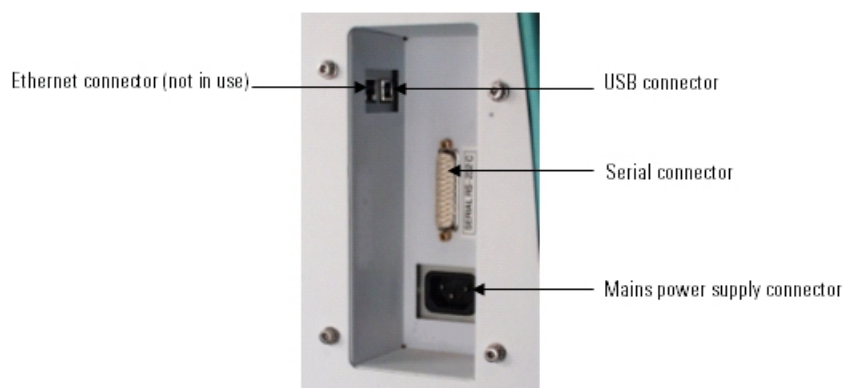

Figure 2-1. Computer and mains power supply connectors in the Varioskan instrument
3. Connect the other end of the cable to the SERIAL RS-232 C connector (Figure 2-1) on the back panel of the instrument.
2. Connect the instrument to the computer using a USB cable (see Figure 2-1).